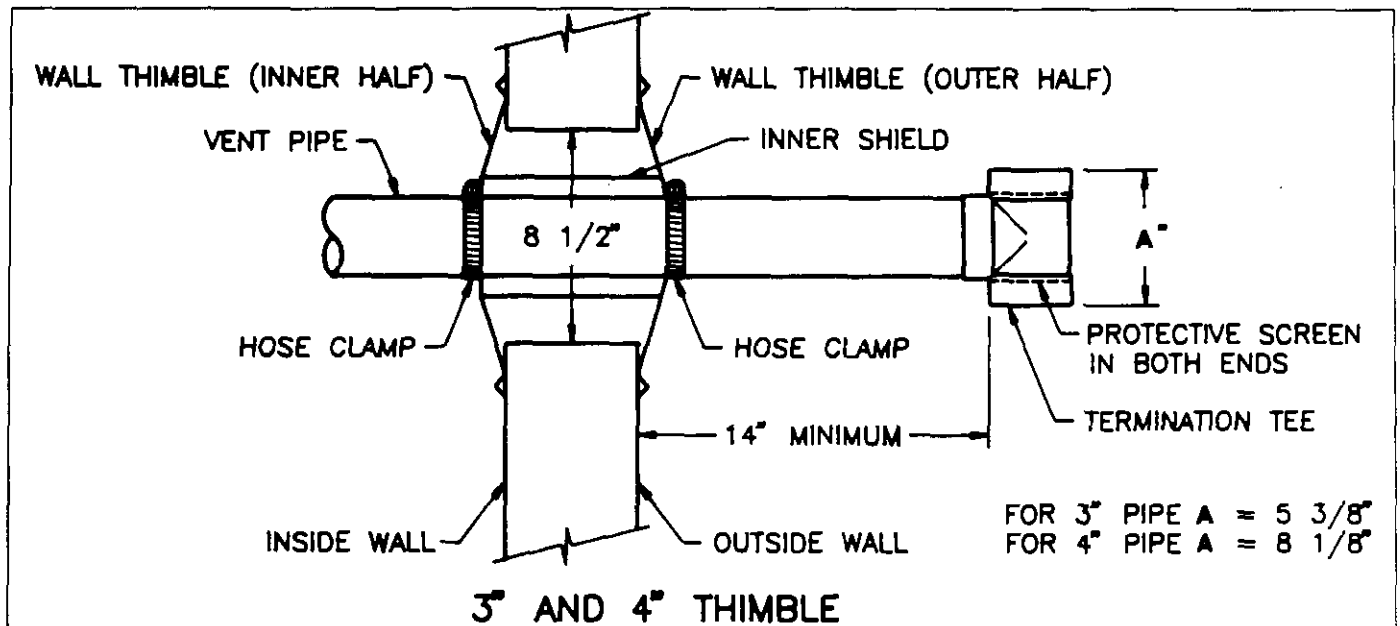

FIGURE 6
NOTE: Use Figure 6 in conjunction with instructions below to properly install wall thimble.
7. To prevent vent pipe from moving in thimble, attach stainless steel hose clamp to both pipe ends extending from thimble. See Figure 6.
- a. Use approved sealant to join termination tee to section of vent pipe protruding from thimble. Termination tee must be in vertical position. See Figure 6.
- c. The inside of the termination tee must be a minimum of 14 inches from outside wall. See Figure 6 for a correctly completed installation.